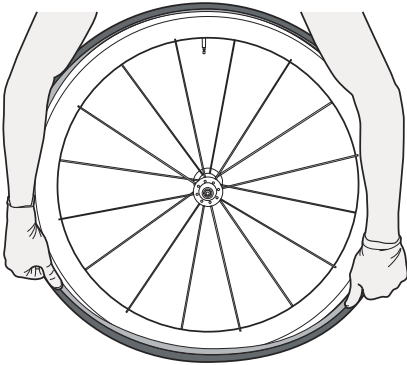

Figure 35.
7. Continue working down the tire, pressing it into the rim until there are only a few inches of the tire remaining outside the rim bead (Figure 35).